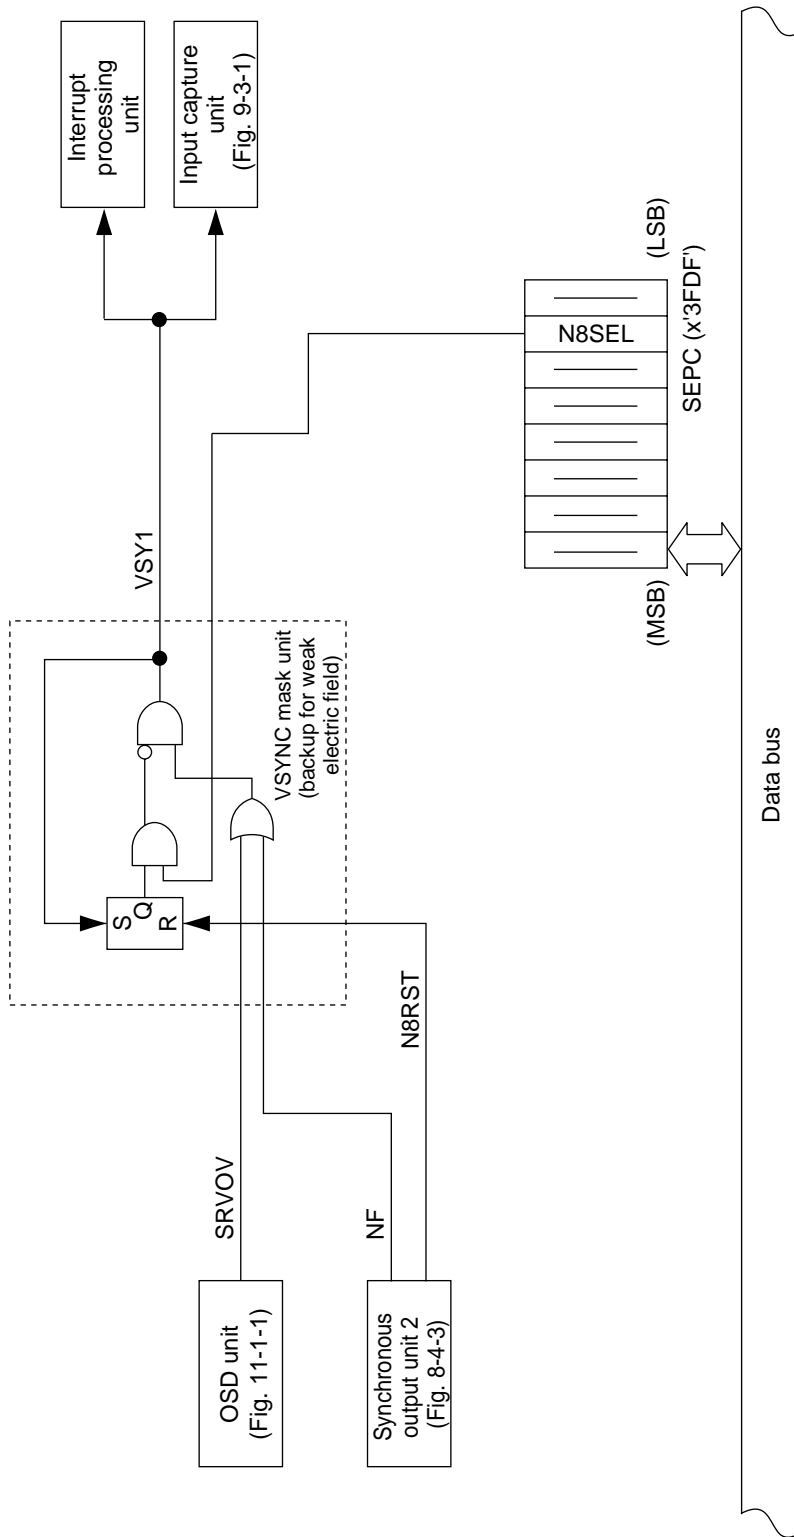

Figure 9-2-8 VSYNC Input Processing Unit
- (1) The VSYNC noise mask (N8) signal masks the actual capture signals (VSY1 signal in Fig. 9-2-8) of the VSYNC Input Capture Register (ICRVSYN: x'2E0C', x'2E0D', x'2E0E', R). When the VSYNC signal or NF signal causes the FRC count value to be captured by the ICRVSYN Register, masking begins and capture operation is disabled. The mask can be removed by setting the N8RST Flag (bp4) of the Synchronous Output Data Register (HOCRBUF1: x'3F7B', R/W) to '1'.
- (2) The VSYNC missing backup (NF) signal is a dummy signal used when the VSYNC signal is missing to capture the FRC count value in the ICRVSYN Register. The NF signal is generated when the value set in the Free-Running Counter Output Compare Register (FOCR0: x'2E16', x'2E17', R/W) becomes equal to the FRC count value.